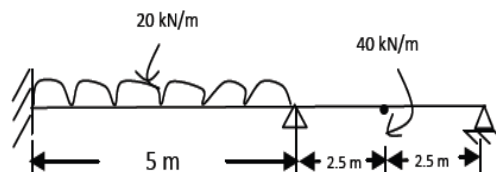

Figure 4.9
9. A two span continuous beam shown in figure 4.9. The moment of inertia is constant throughout. Analyze the beam by stiffness method.